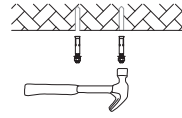

Figure 4
2. Fix screws into the holes with a or drill. (figure 4)